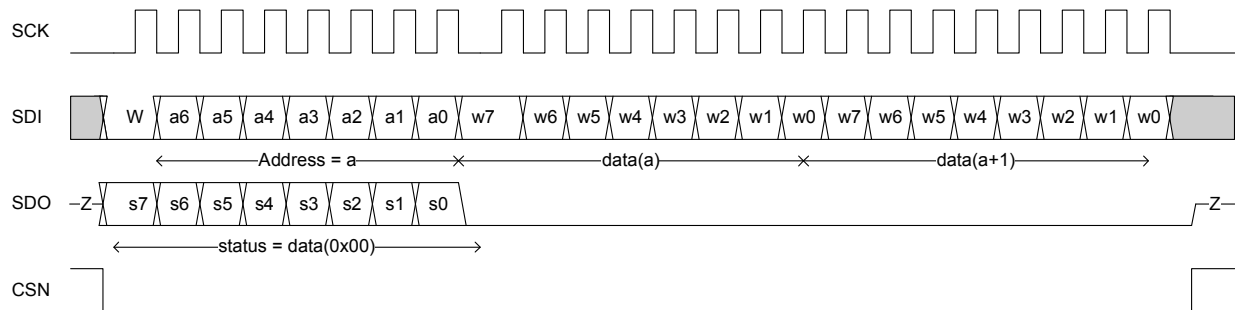

Figure 6 Multi-write SPI transaction
- Write one or more consecutive register(s) and read the status byte (register 0x00) (see Figure 6 below). This action needs at least 2 bytes (1 for address and write order, and 1 byte for writing at the desired address).